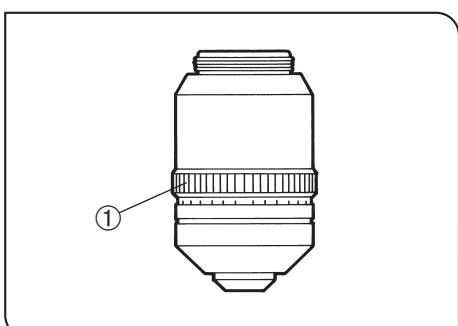

Fig. 44
- If the cover glass thickness is known, set the correction collar ① to that scale value. (Fig. 44)
- If the cover glass thickness is unknown, adjust the correction collar ① and fine adjustment knob alternately until the positioning with the highest contrast is obtained.
- ◎ Be careful not to touch the correction collar ① when turning the revolving nosepiece.